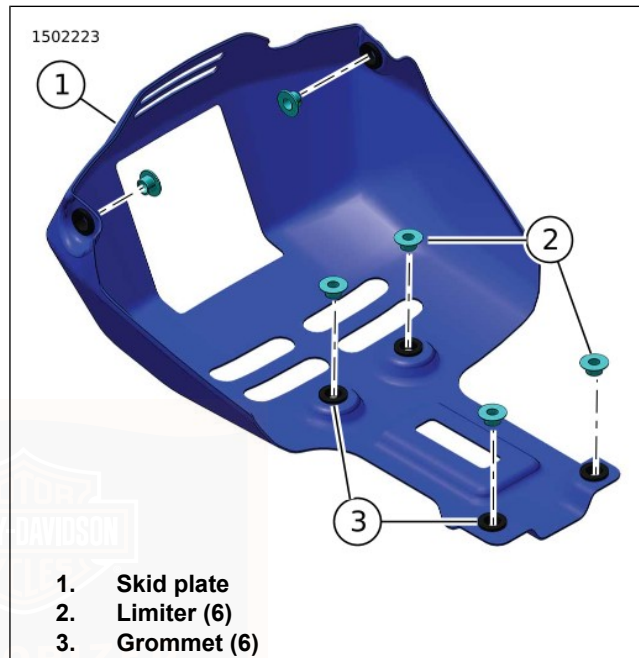

Figure 74. Skid Plate Limiters
1. Figure 74 Verify that grommets (3) and limiters (2) are in place.